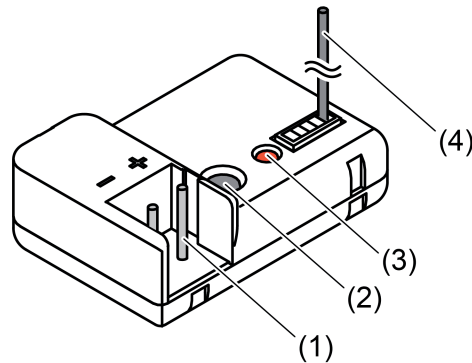

Figure 1: Device components media coupler
- Press the programming button (2)(Figure 1).